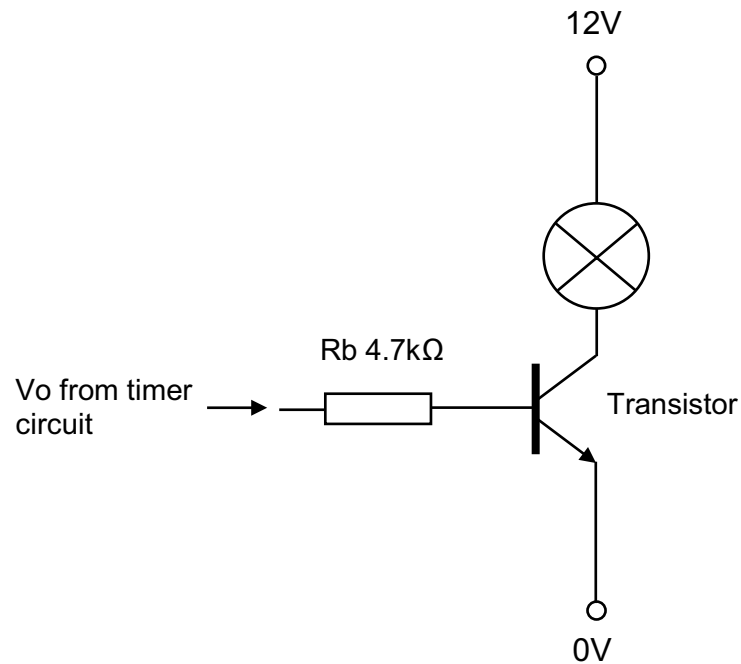

Fig. 9(c)
- (ii) Calculate the current gain (h_{fe}) of the transistor shown in **Fig.9(c)** if the base/emitter voltage (V_{be}) is 0.6V and the resistance of the illuminated lamp is 20ohms. Assume the output V_o from the timer circuit is 6 volts. [2]